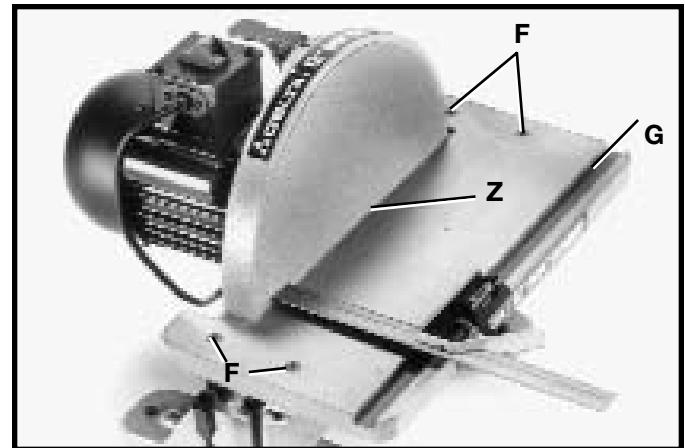
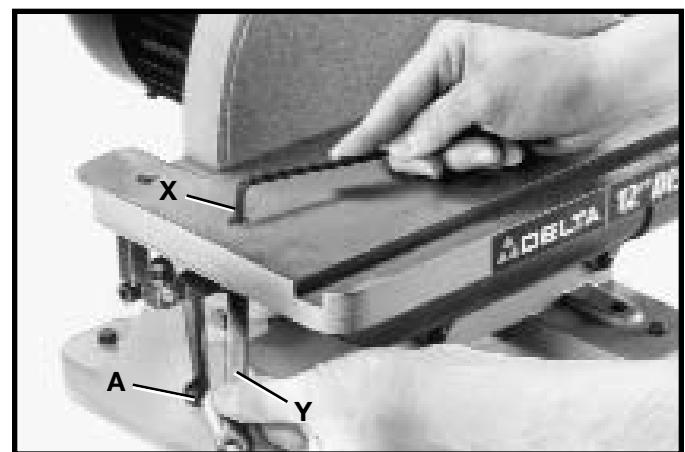

Fig. 10
Fig. 11
1. Check to see if the miter gage slot (G) Fig. 10, is parallel with the disc by placing a combination square in the miter gage slot with one end of the square against the disc as shown.
4. Using the supplied wrenches (X) and (Y) Fig. 11, loosen the four screws (F) Fig. 10, which secure the table to the trunnions and adjust the table by moving it in or out until the miter gage slot is parallel with the disc. Then tighten four screws (F) Fig. 10. **NOTE:** When making this adjustment, be sure the table locking handles, one of which is shown at (A) Fig. 11, are tightened. **WARNING: TO AVOID TRAPPING THE WORK OR FINGERS BETWEEN THE TABLE AND ABRASIVE DISC, THE TABLE EDGE (Z) FIG. 10, SHOULD BE POSITIONED A MAXIMUM OF 1/16" FROM THE ABRASIVE DISC, AS SHOWN.**